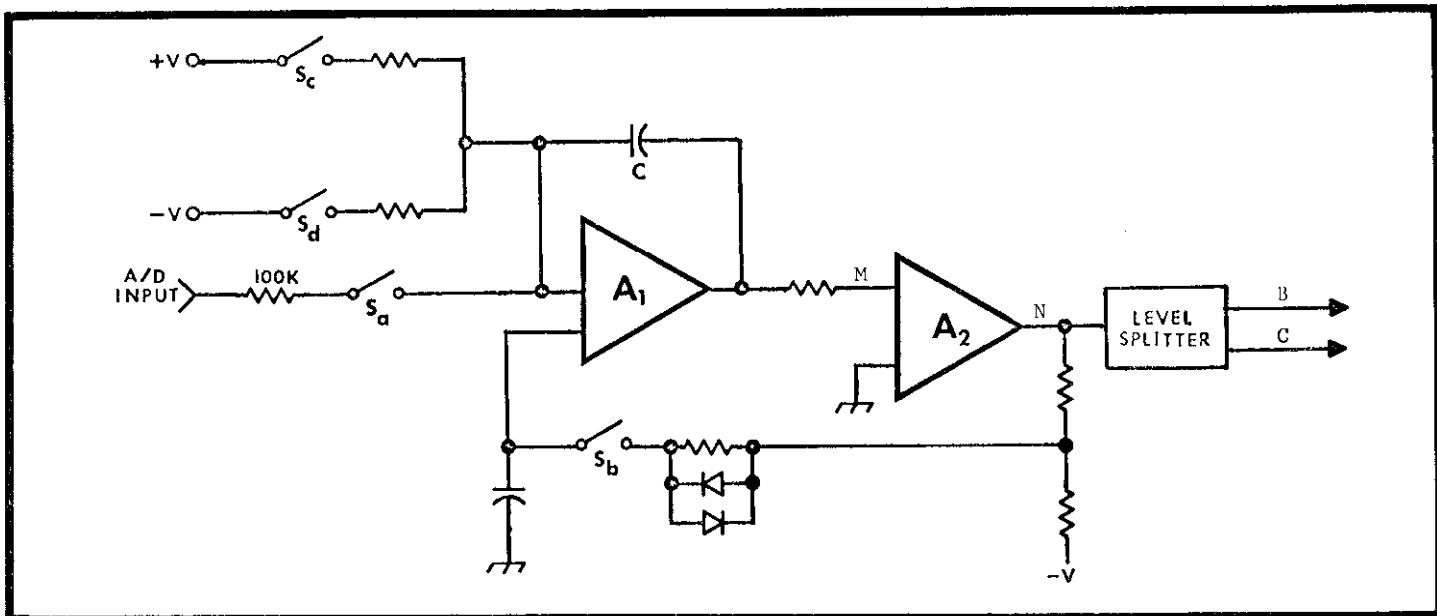

FIGURE 10. Integrator Block Diagram.
1. Zero Period. During this period the integrator amplifier is zeroed by a feedback rezeroing circuit as shown in Figure 10. Switches Sa, Sb, and Sd are open to prevent integrator charging.
1. Integrator Circuit. (Refer to Figure 10 for identification of switches  $S_a$ ,  $S_b$ ,  $S_c$ , and  $S_d$ ). The operation of the Integrator is controlled by the positions of switches  $S_a$ ,  $S_b$ ,  $S_c$ , and  $S_d$ . Switch  $S_a$  is Q401. Switch  $S_b$  is transistor Q411. Transistors Q404, Q405, Q408, Q409, and Q410 are control circuits arranged to control the proper FET switches depending on the signals at pins 12 and 13. The integrator amplifier consists of transistors Q402 and Q403 and integrated circuit QA401. The feedback capacitor is C406. Switches  $S_c$  and  $S_d$  control the current for 9-volt zener diodes D401 and D402. Resistors R403, R404, R405, R409, R410, and R411 are full-scale calibration resistors. Potentiometers R402 and R408 are internal screwdriver calibration adjustments.
3. Feedback Rezeroing Circuit. This circuit provides rezeroing of the Integrator circuit using negative feedback from the Zero Crossing Detector output. Transistor Q411 is the equivalent of Switch  $S_d$  in Figure 10. Resistor R434 and capacitor C414 form a feedback-loop filter circuit. Diodes D407 and D408 provide fast response for large input offsets due to input overloads.